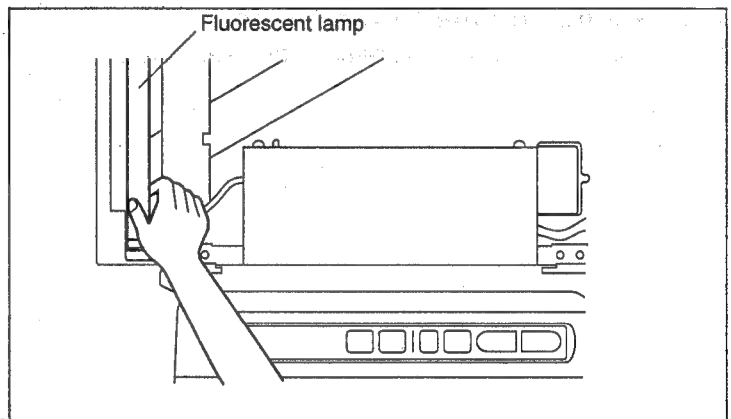

Fig. 7-32
- 3) Twist the fluorescent lamp 90 degrees to remove it as shown in Fig. 7-32.
Note: Because access to this lamp is limited, please twist the lamp as shown in Fig. 7-32 from the bottom.